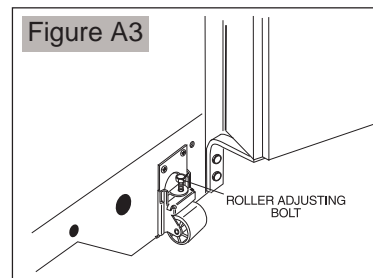

Figure A3
3. Adjust rollers by turning each roller adjusting bolt with adjustable wrench, socket wrench, or nutdriver until refrigerator is level and stable. (See Figure A3)